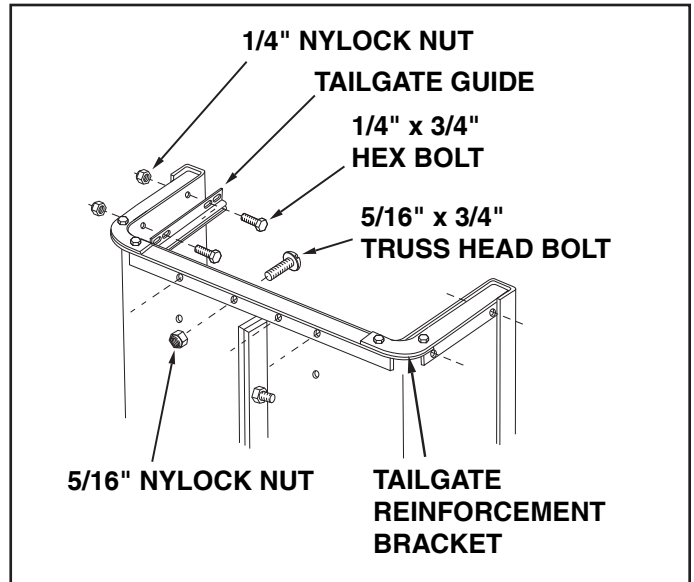

FIGURE 3
5. Position the tailgate reinforcement bracket on outside of cart as shown in figure 3. Assemble to the bottom of the cart body using four 5/16" x 3/4" truss head bolts and 5/16" nylock nuts. **Do not tighten yet.** See figure 3.
6. Position the tailgate guides on the inside of the cart bodies with guide channels to the front as shown in figure 3. Assemble using four 1/4" x 3/4" hex bolts and 1/4" nylock nuts. **Do not tighten yet.** See figure 3.